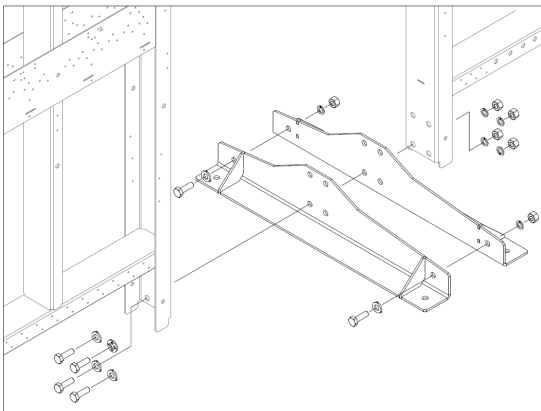

Figure 8
- 6 from the base members of floor mounted systems. Refer **Figure 8**.